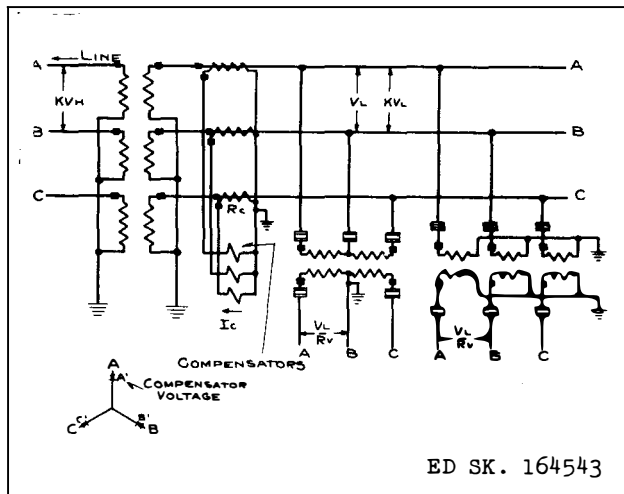

Fig. 4—Schematic Compensation Diagram For Star-Star (Or Delta-Delta) Connected Power Transformer Banks.
In this case the compensators are connected in star to star-connected low voltage current transformers as shown in Fig. 4. Then the compensator current is,
By definition the percent impedance of the power transformer is the percent voltage drop across the bank at unit current. As shown in the vector diagram of Fig. 4 the compensating voltage is in phase with a star current. Therefore, the voltage drop across the bank at unit current (in this case I_C) in terms of the star relay voltage is,
(Similar to Fig. 4 except compensation current transformers on high voltage side of bank). This is the same as the case above except equation (1) is in terms of KV_H instead of KV_L . Therefore, for star-star connected power transformers with star connected compensators on the high voltage side, the following formula applies:
circulating current in the delta which does not pass thru the current transformers. This is not important in applying relays for phase fault protection. The voltage appearing across the terminals L and T of the compensators is proportional to the difference between two equivalent power transformer current. The delta voltage AB is obtained from the voltages of the two transformers A and B, and it must be compensated by the drop in each of the two transformers. The star-delta auxiliary potential transformers provide voltages corresponding to the high tension voltages in phase position, but uncompensated in magnitude. Current A" feeding the A compensator is related to $I_A = I_C$ and current B" feeding B compensator is related to $I_B = I_A$. The compensators add the two voltages appearing across their terminals. Since the voltage path from A' to B' traverses the L and T terminals of the two compensators in opposite directions, the total compensated voltage is proportional to $3 Z I_A$ if $I_A + I_B + I_C$ is equal to zero. If $I_A + I_B + I_C$ is not equal to zero, there is a circulating current in the delta which will cause equal and opposite drops in transformers A and B so the delta voltage is still correctly compensated. Combining these compensator voltages with the low tension star voltages as shown, gives the compensated delta voltages for the relays. Thus, the compensated relay voltages from the vector diagrams are $E_{A'C}$, $E_{C'B}$, or $E_{B'A}$. This method of compensation should be used only when delta relay voltages are required as the voltages A', B' or C' to ground are not the true phase-to-ground compensated voltages as they are in Figs. 4 and 6.
Two sets of compensators are required in line with equation (14). The setting for the compensators using the low tension current transformers is the same as equation 6 except Z is Z_L and for the compensators using high tension current is the same as equation 7 except Z is Z_H . The two compensator voltages are shown in Fig. 8b. The schematic connections can be easily derived from Fig. 4.
B. Star (H) - Star (L) - Delta (T) Bank.
Two sets of compensators are required in line with equation (15). The two compensator voltages are shown in the vector diagram of Fig. 8b. The schematic connections can be derived easily from Figs. 4 and 6. The setting for the compensators using the low tension current transformers is the same as equation 6 except Z is $Z_L + Z_H$. The setting for the compensators using the tertiary current transformers connected inside the